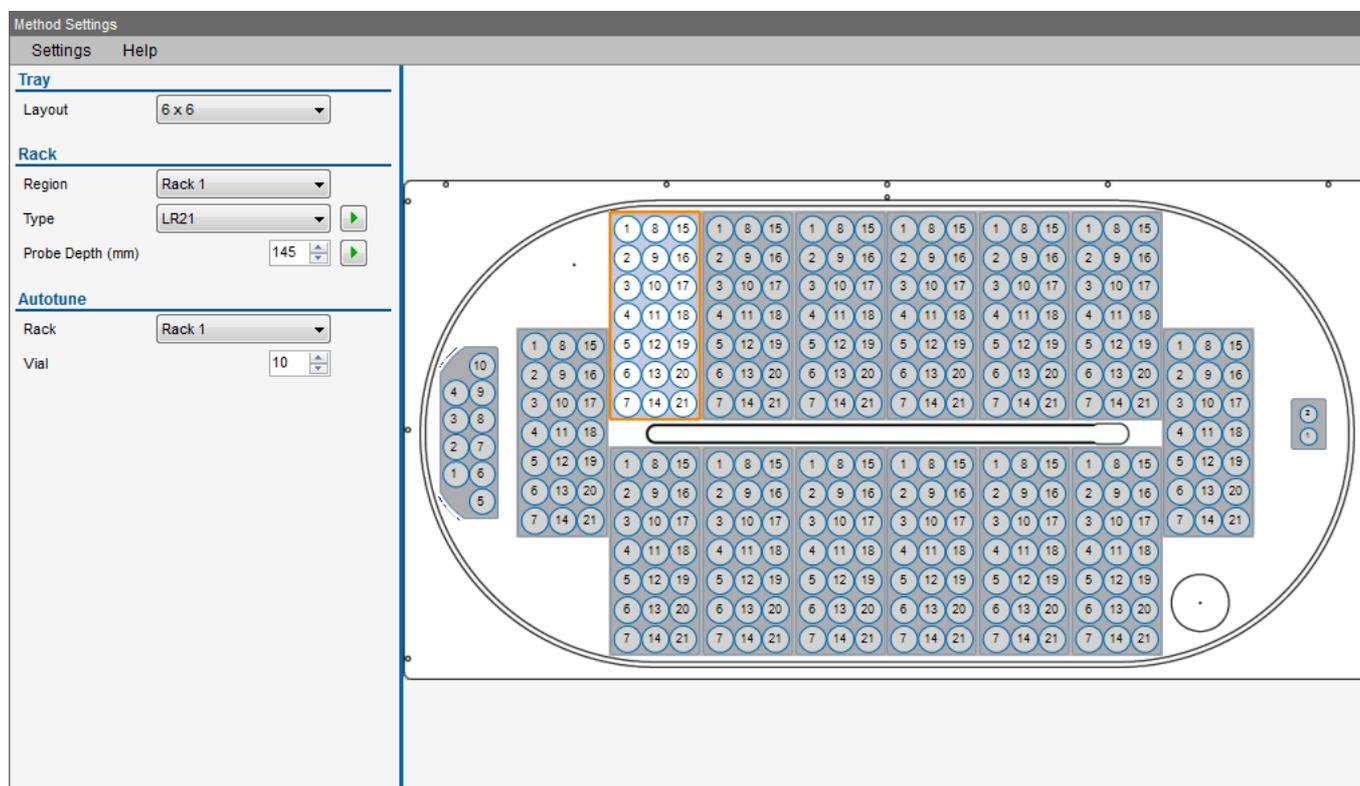

Figure 14-11. ESI SC-14DX settings
2. Select  to show the autosampler rack layout, see Figure 14-11.